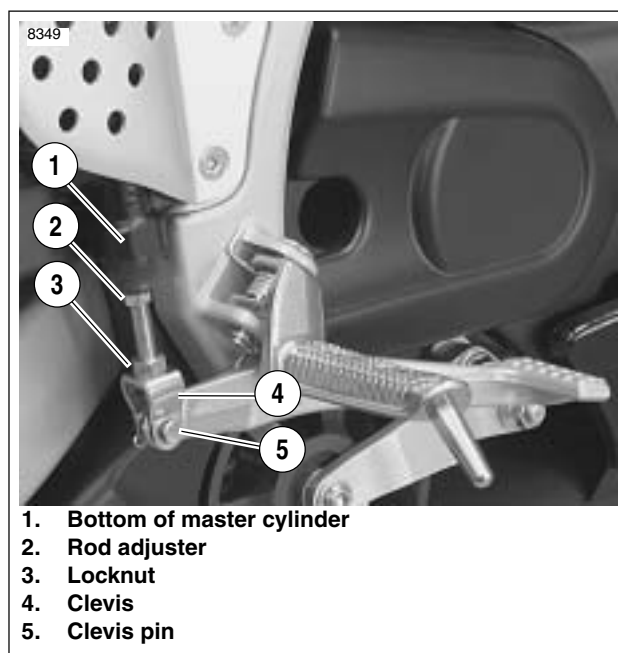

Figure 1-12. Rear Brake Pedal Pushrod Adjustment
1. See Figure 1-12. Inspect for minimum and maximum brake rod engagement in brake clevis (4). Adjust as required.
- a. See Figure 1-12. Loosen locknut (3) while holding rod adjuster (2). Move locknut away from top surface of clevis (4).
- c. Return locknut (3) to fit flush against top surface of clevis and tighten to 130-173.5 in-lbs (14.7-19.6 Nm).